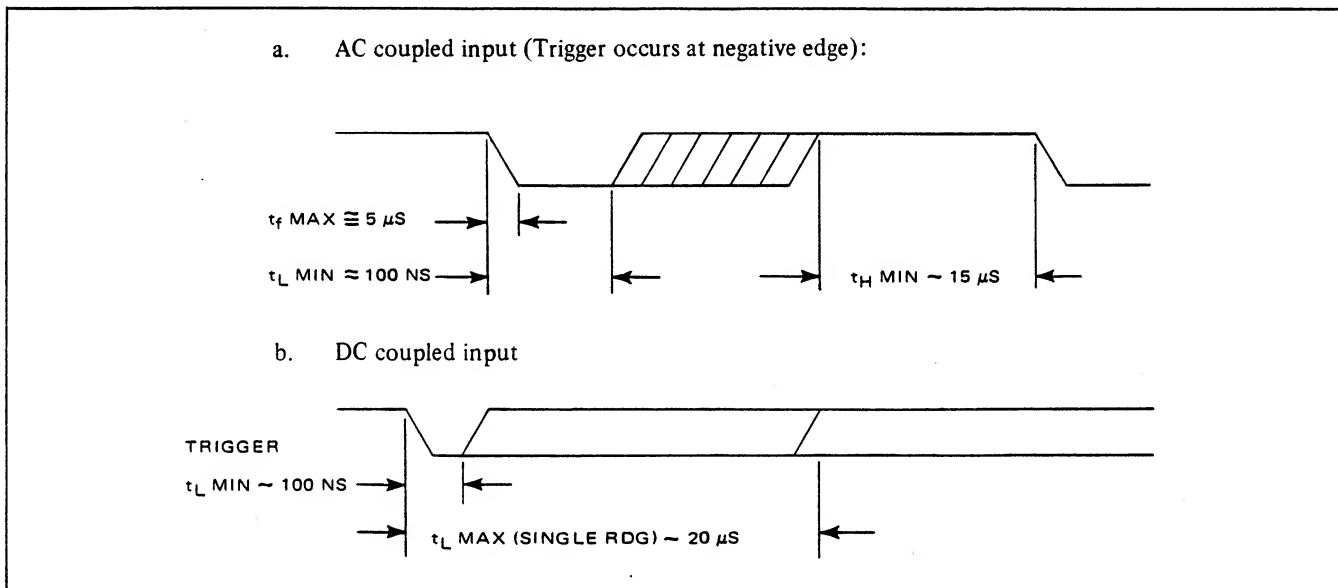

Figure 3.23 - Trigger Waveform
3.6.4 Two mutually exclusive trigger inputs are available. AC coupled and DC coupled. Figure 3.23 shows the required waveforms.